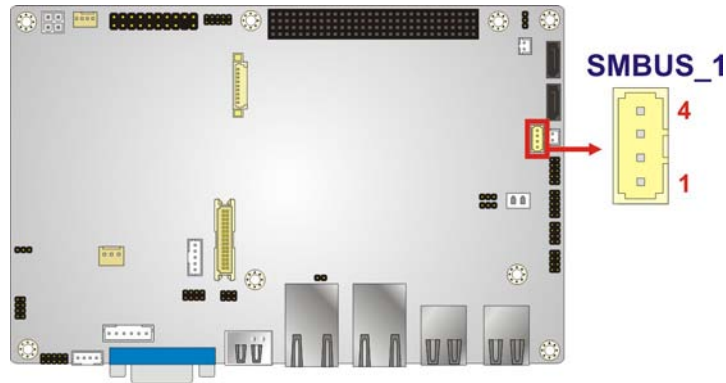

Figure 3-21: SMBus Connector Location
- CN Location: See Figure 3-21